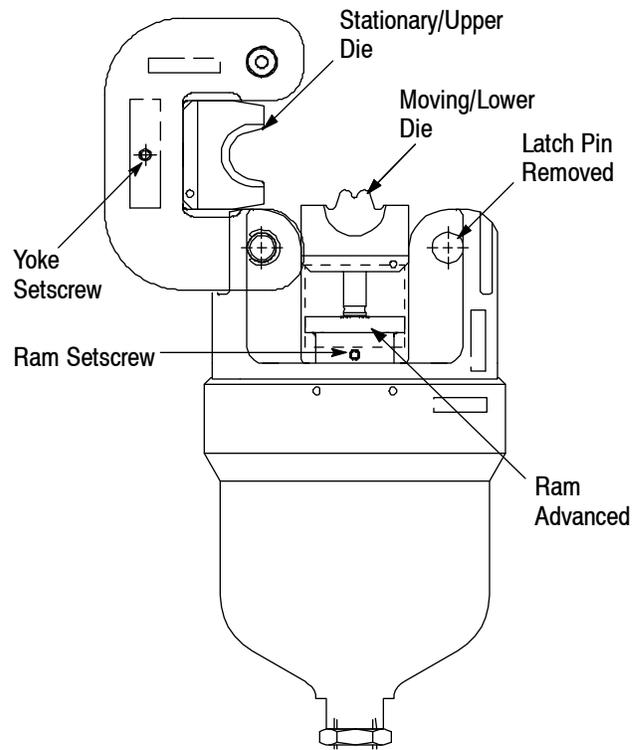

Figure 2
**4. DIE INSERTION AND REMOVAL** (Figure 2)